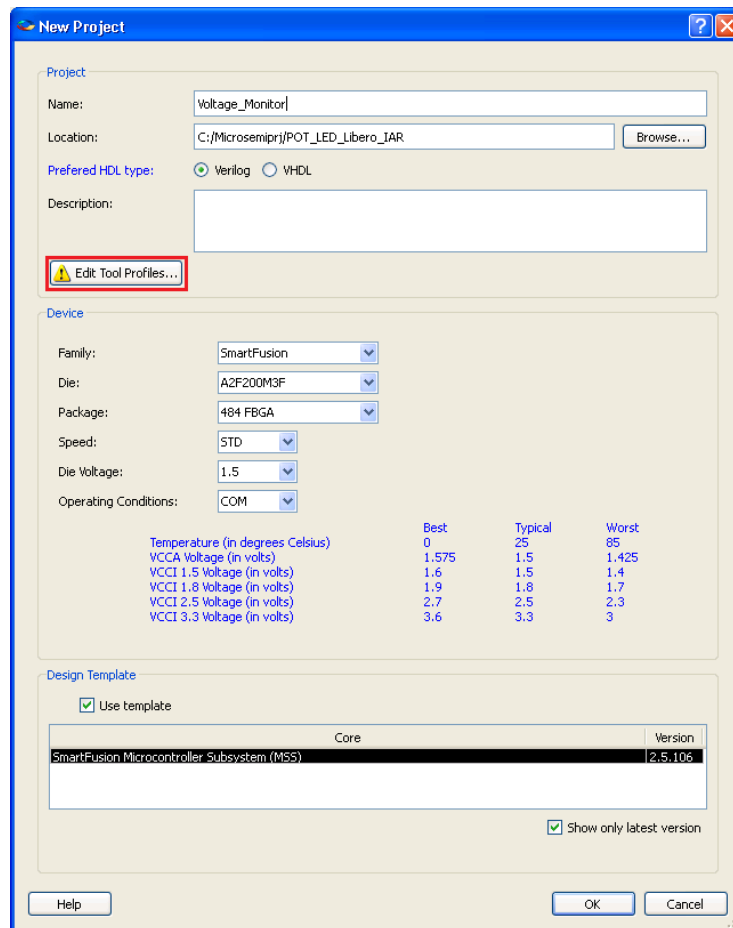

Figure 1 · New Project Dialog Box
2. From the **Project** menu, select **New Project**. Enter the information as displayed in Figure 1 .